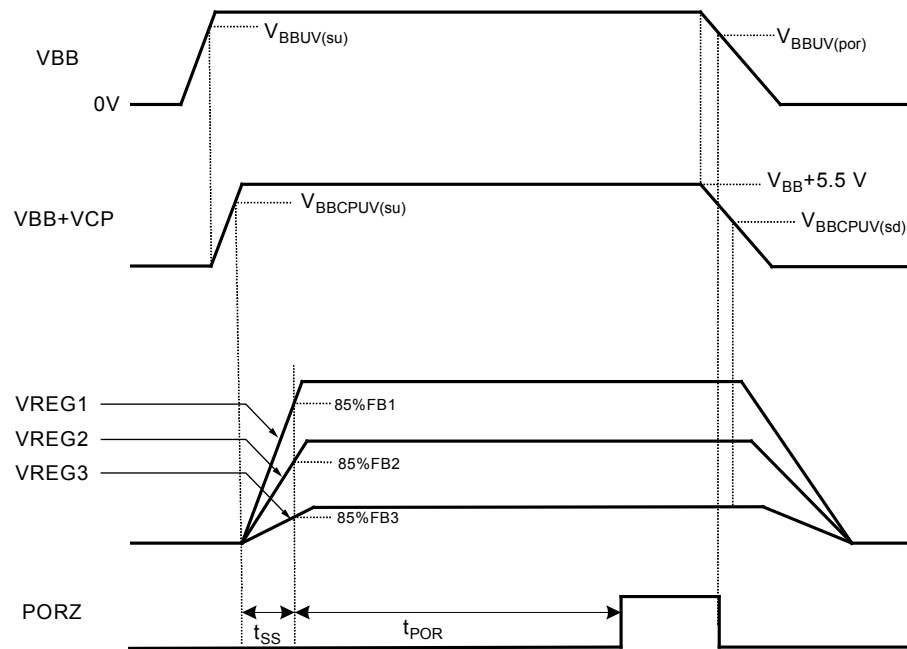

Figure 1. Timing diagram for powering up and down using the VBB pin
**Powering Up and Down with VBB** Referring to figure 1, each of the enable inputs (ENBx) are held high by being tied to the  $V_{BB}$  rail via a 100 k $\Omega$  resistor and the VDD is supplied from one of the regulator outputs. When the  $V_{BB}$  voltage reaches the minimum threshold,  $V_{BBUV(su)}$ , the charge pump supply (VCP) ramps up. When  $V_{BB} + V_{CP}$  has reached the minimum threshold  $V_{BBCPUV(su)}$ , the soft start routines are initiated ( $t_{SS}$ ) for all three regulator channels (VREGx). When all three regulators have reached the 85% FBx threshold, the power-on-reset timer is initiated. After the power-on-reset period,  $t_{POR}$ , has elapsed, PORZ goes high, indicating that all the regulators and  $V_{BB}$  are in specification.